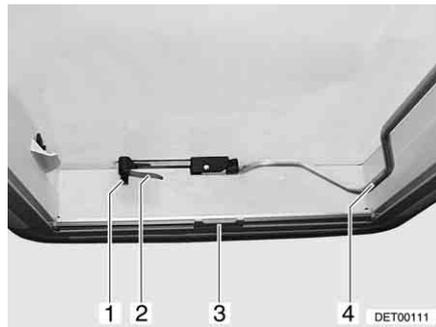
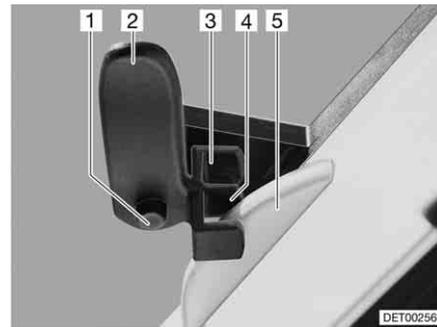

Fig. 65 Heki skylight, closed
Fig. 66 Heki skylight in ventilation position 1
Opening: ■ Press the safety knob (Fig. 65,1) and turn the catch lever (Fig. 65,2) one quarter turn inward.
■ Pull the bar (Fig. 65,4) downwards out of the latch.
Closing: ■ Pull the bar (Fig. 65,4) downwards out of the latch.
■ Turn the catch lever (Fig. 65,2 and Fig. 66,2) one quarter turn. The hook of the roof lock (Fig. 66,5) must engage in the upper locking fork (Fig. 66,3).
■ Press the safety knob (Fig. 66,1) and turn the catch lever (Fig. 66,2) back. The hook of the roof lock (Fig. 66,5) must engage in the lower locking fork (Fig. 66,4).